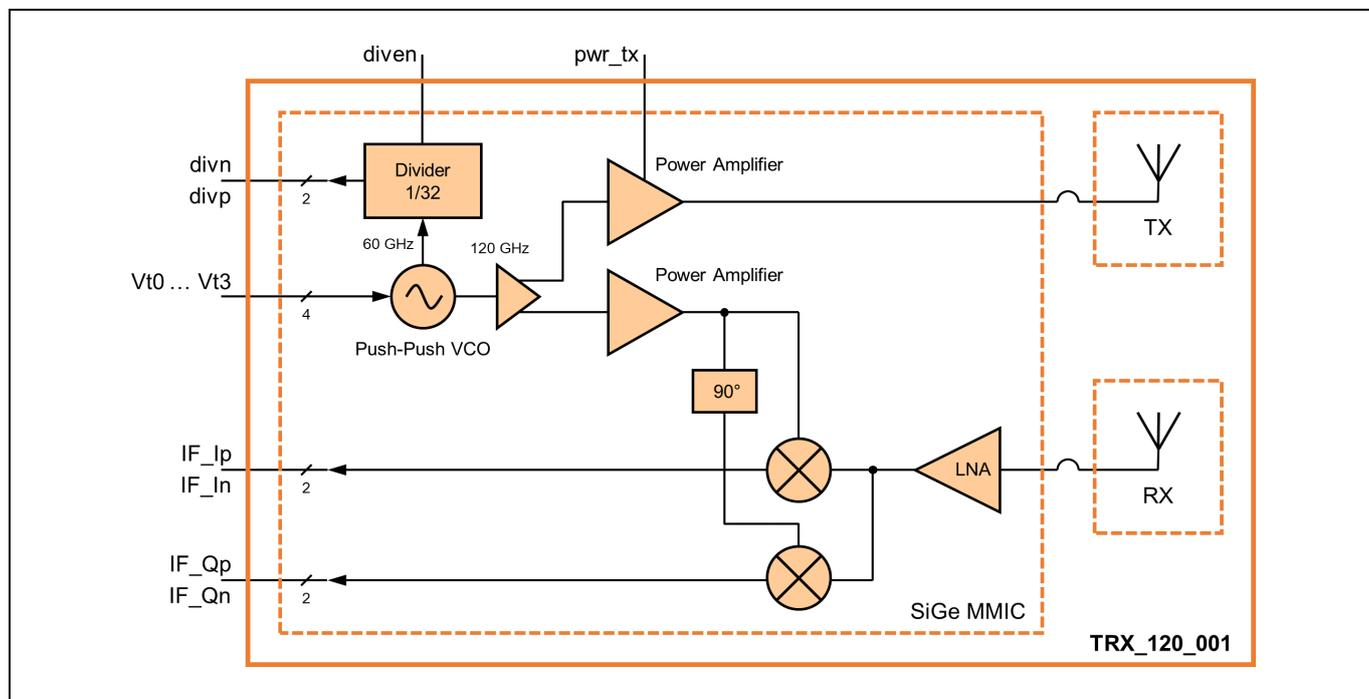

Figure 1 Block Diagram
The RFE is an integrated transceiver circuit for the 122-GHz ISM band with antennas in package. It includes a low-noise amplifier (LNA), quadrature mixers, a poly-phase filter, a voltage controlled oscillator, divide-by-32 outputs and transmit and receive antennas (see Figure 1). The RF signal from the oscillator is directed to the RX path via buffer circuits. The RX signal is amplified by the LNA and converted to baseband by two mixers with quadrature local oscillator (LO). The 120-GHz LO has four analog tuning inputs with different tuning ranges and tuning slopes. The tuning inputs can be combined to obtain a wide frequency tuning range. The analog tuning inputs together with integrated frequency divider and external fractional-N PLL can be used for frequency modulated continuous wave (FMCW) radar operation. With fixed oscillator frequency it can be used in continuous wave (CW) mode. Other modulation schemes are possible as well by utilizing analog tuning inputs.